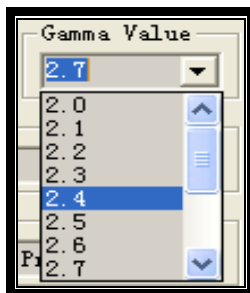

Fig.3-28
Step27: In the frame of Gamma Value, click the drop-down arrow in the right corner of the box which has many Gamma Values options, and choose a proper gamma value for the LED Screen ready to be corrected. As shown in fig.3-28.